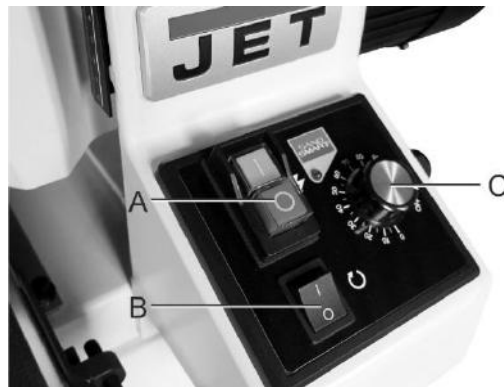

Figure 9-1: control panel
2. Turn on main power switch by firmly pressing switch (A, Figure 9-1)
3. Turn on the rocker switch (B, Figure 9-1) to start drum motor.
4. Rotate conveyor speed dial (C, Figure 9-1) clockwise to start and increase speed of conveyor.